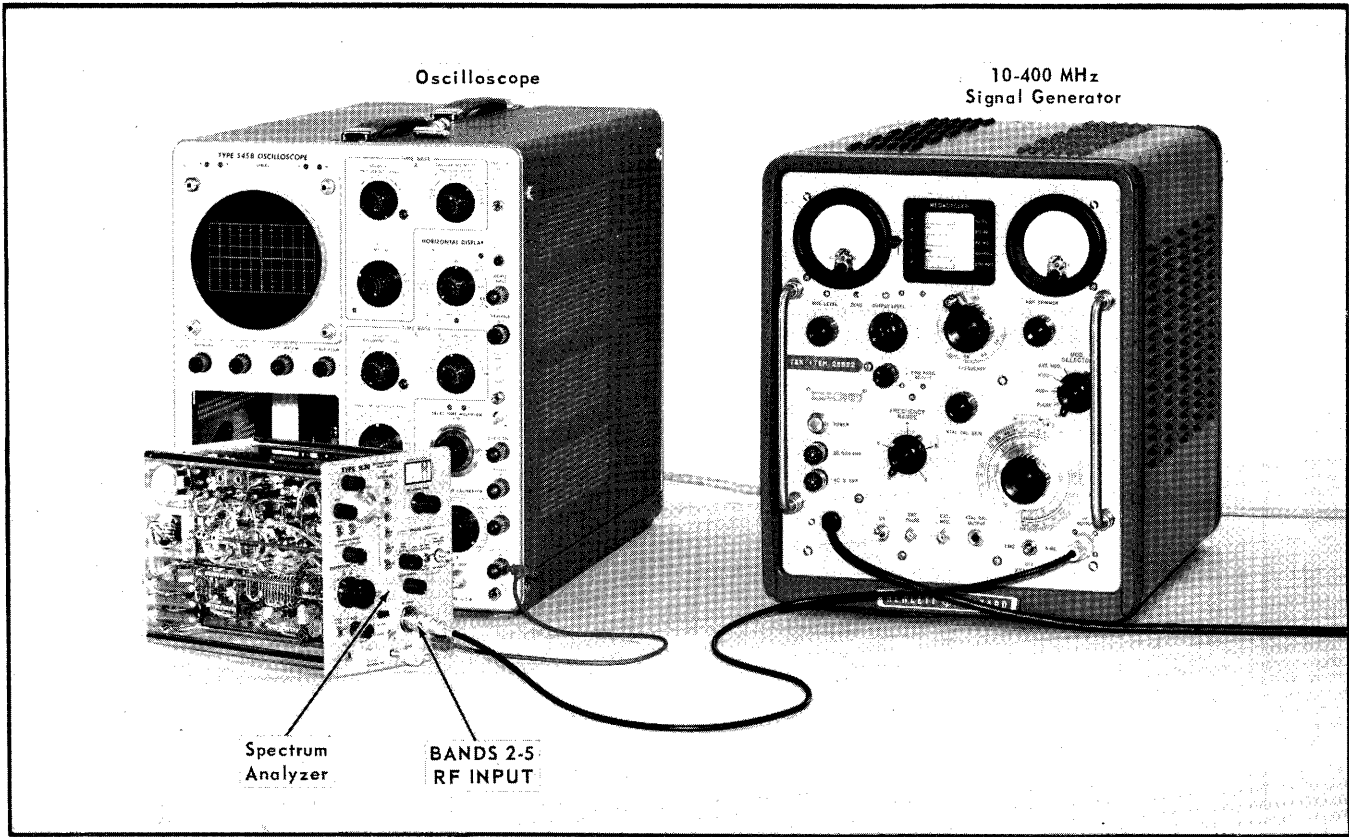

Fig. 6-14. Setup for checking RF CENTER FREQ Calibration and Phase Lock (Step 8).
- a. Connect the equipment as shown in Fig. 6-14.